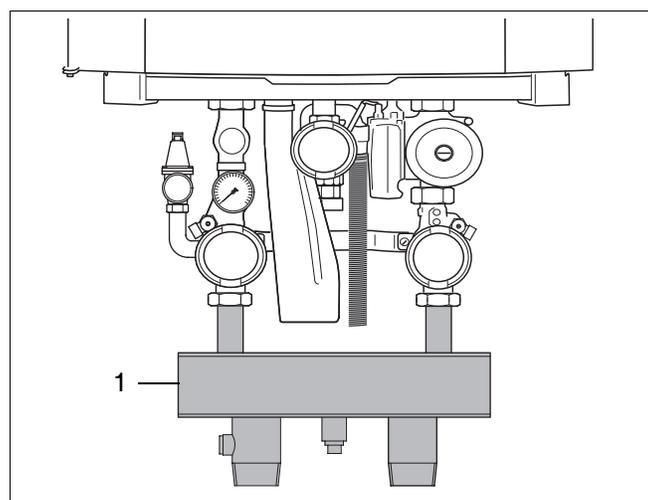

Fig. 11 Low loss header
- Install the low loss header (fig. 11, pos. 1).